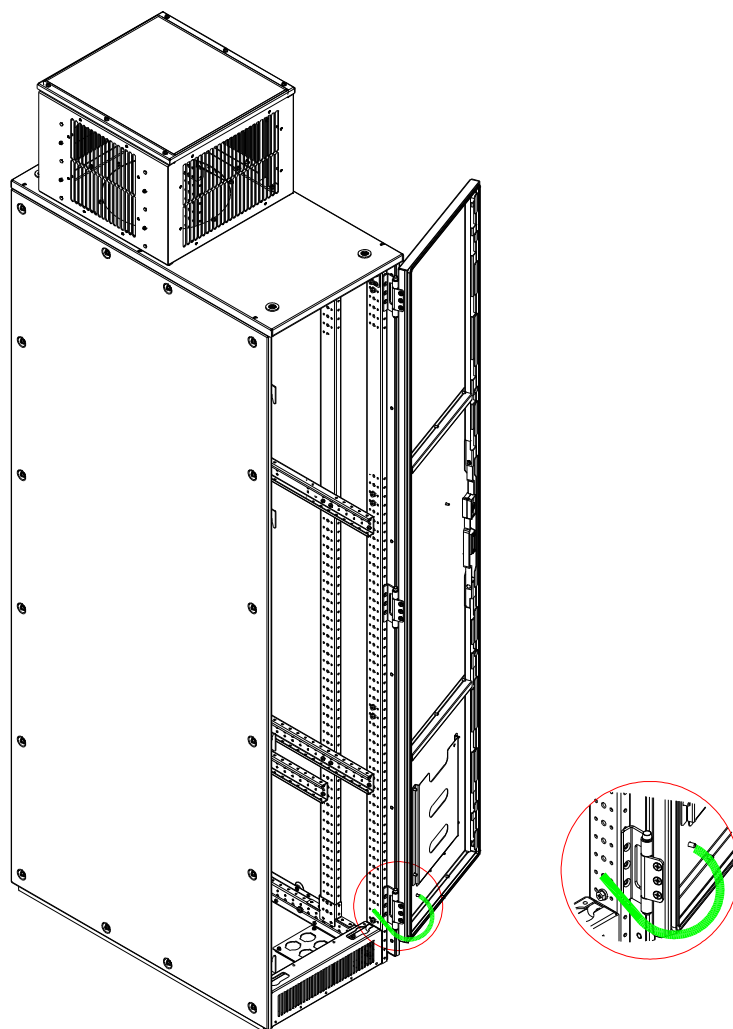

Figure 1.7.2-1
- 1.7.2 If the connection point of the metal casing is coated or anodized, it should be removed prior to connection or a special metal piece which goes through the non-conductive layer should be used, as shown in Figure 1.7.2-1, to establish a good connection.